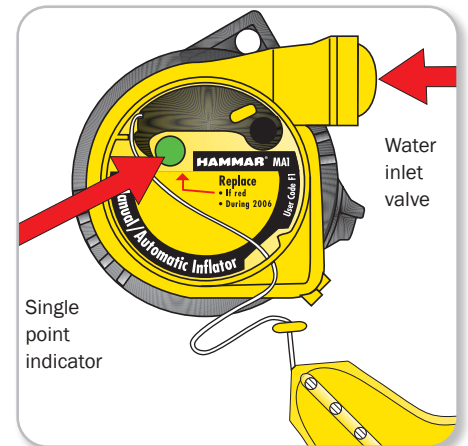

Figure 8
6. Now check the new manual/automatic cap as follows: (figure 8)